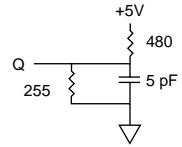

Fig. 2 OUTPUT LOAD EQUIVALENT
- ^tHZCE, ^tHZOE and ^tHZWE are specified with CL = 5 pF as in Fig. 2. Transition is measured ± 500mV typical from steady state voltage, allowing for actual tester RC time constant.